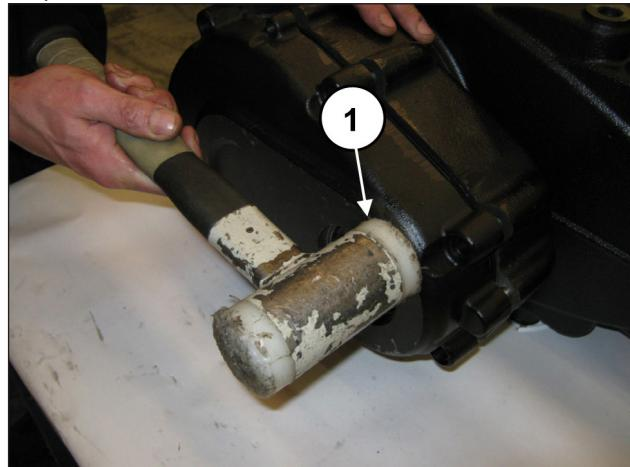
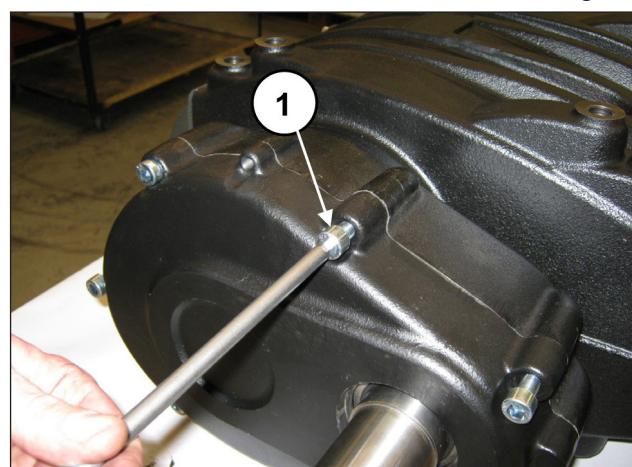

Fig. 89
Fig. 90
Assemble the reduction gear cover with the aid of an extractor hammer (pos. ①, Fig. 89) and fasten it with 7 M10x40 screws (pos. ①, Fig. 90).